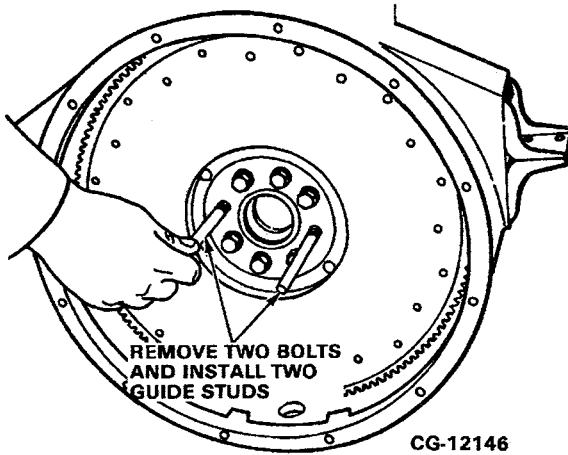

Figure 7.5. Install Guide Studs
1. Remove two bolts from the flywheel and install two guide studs. Refer to Figure 7.5.